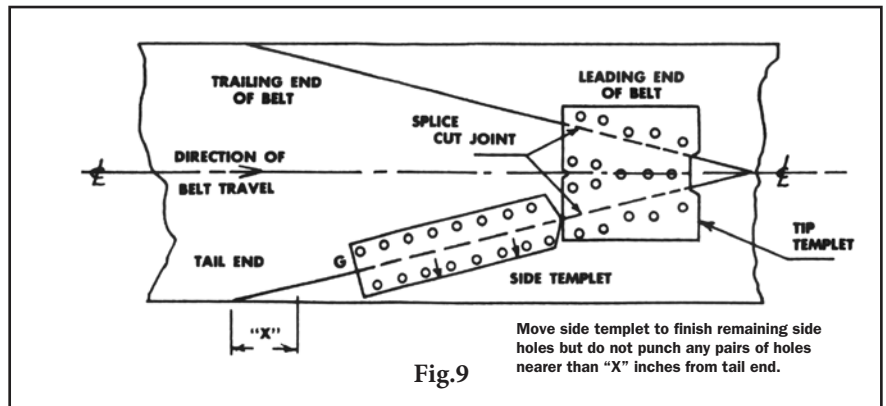

Fig.9
9. Punch side holes using side templet as shown in Fig. 9. Position side templet by placing lugs on the templet in the splice cut, the pointed end of the templet facing towards the tip end of the splice, and the arrows on the templet pointing in the direction of the edge of the belt. Butt the pointed end of the templet against the previously positioned tip templet. Nail in position and punch holes in the belt with a No. HP2 Flexco punch. Move side templet to finish remaining side holes being careful not to punch any pair of holes nearer than "X" inches from tail end. Use a Flexco bolt as a guide pin to locate new position of side templet. See Table No. 1 for values of "X" for lead and width of belt.